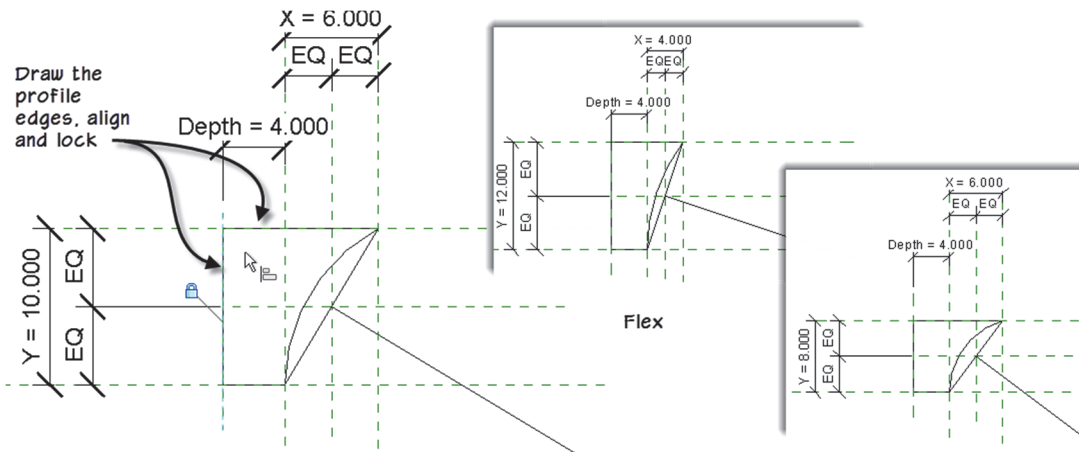

FIGURE 4.36
14. On the left, top and bottom, draw straight lines. Align and lock anywhere an Automatic Sketch Dimension appears (see Figure 4.36).